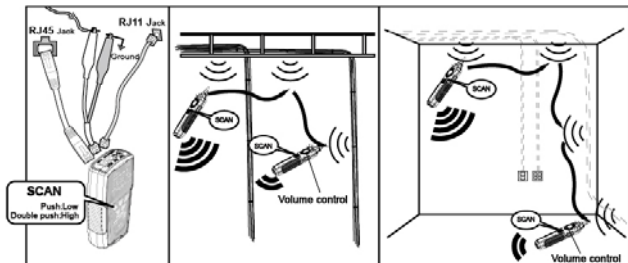

Figure 3 Locating cables
To locate cables, do the following steps (Figure 3) :
1. Connect the black alligator clip of the Transmitter to the ground, and then connect the red clip to a jack or punch-down block as shown in Figure 3.
2. As the Figure 3 shown, when push , the indicator of "POWER/ BAT LOW" will light up and turn on the power. Push  button for cable tracing. When the RED indicator flickered, the low-tone cable tracing is working. Push  button again to feature the high-tone cable tracing, the RED indicator will flicker faster. Push  button again, the RED indicator will be stopped and standby for next operation.
3. AS the figure 3 shown. put the receiver function switch at "scan", and push  on receiver to operate cable tracing function. The tracing sound will be output from speaker. When put on earphone, there will be no sound from speaker, but from the earphone.